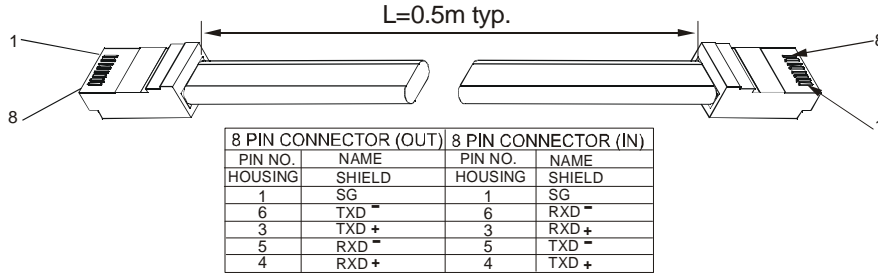

Fig. 7-6 Serial link cable with RJ-45 shielded connectors (P/N: GEN/RJ-45)
- Using the Linking cable supplied with each unit (refer to Fig. 7-6), connect each unit OUT connector to the next unit IN connector.